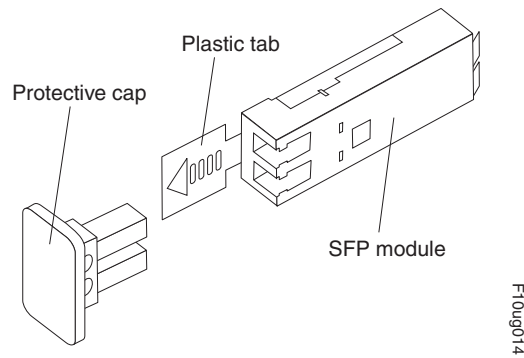

Figure 26. Small Form-Factor Pluggable (SFP) module
2. Remove the protective cap from the SFP module, as shown in Figure 26 on page 51. Save the protective cap for future use.